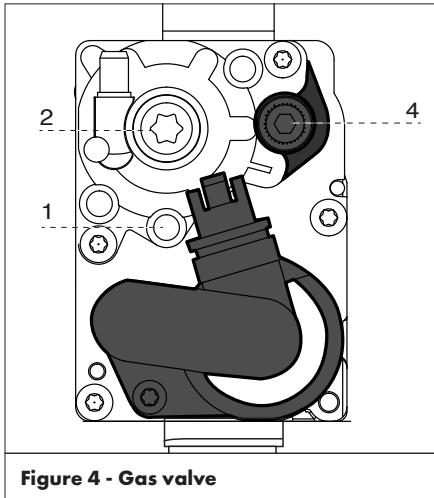

Figure 4 - Gas valve
The boiler gas valve is equipped with a Line Pressure Test Port; see screw 1, Figure 4. Use the following procedure to measure the gas line pressure to the boiler to ensure it falls within the range given in Table 2:
- b. Loosen screw **1 (Torx 10 - Line Pressure Test Port)**. This port is directly connected to the gas line feeding the boiler. See screw 1, Figure 4.